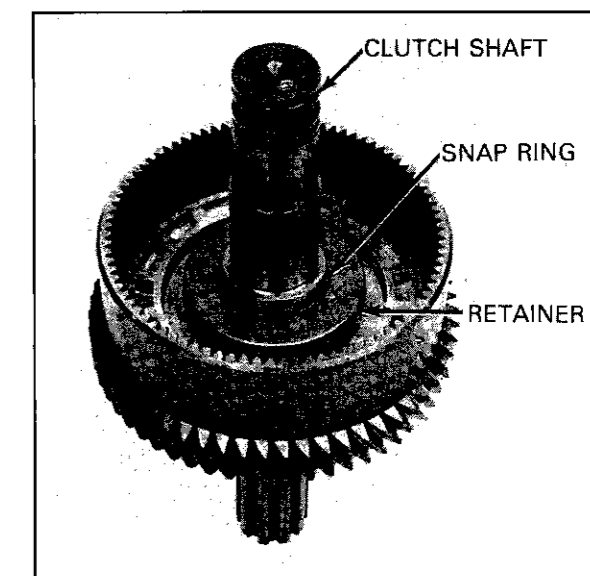
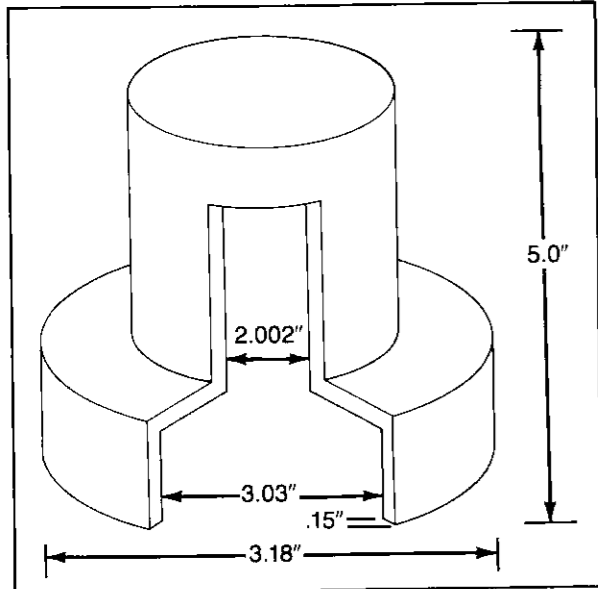
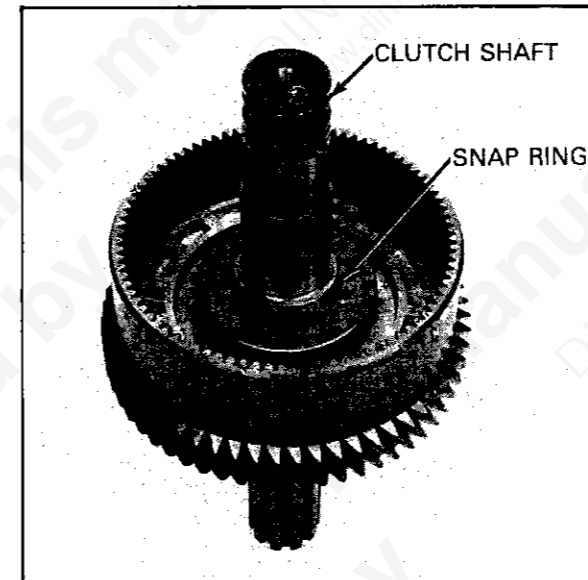

FIG. 16 RETAINER SNAP RING REMOVAL
FIG. 17 RETAINER HOLDING TOOL
FIG. 24 RETAINER SNAP RING INSTALLATION
21. Using a suitable tool, compress the clutch spring and remove the snap ring from above the spring retainer. Slowly release the clutch spring and remove the spring retainer and springs and retainer assembly (Fig. 16). Dimensions for the retainer holding tool are shown in Fig. 17.
19. Using a suitable tool as shown in Fig. 17, compress the clutch springs and install the snap ring into the groove of the clutch shaft (Fig. 24).